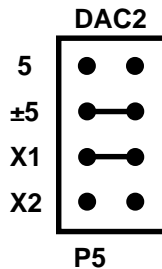

Fig. 1-5 — DAC 2 Output Voltage Range Jumper, P5
This header connector, shown in Figure 1-5, sets the output voltage range for DAC 2 at 0 to +5, ±5, 0 to +10, or ±10 volts. Two jumpers must be installed, one to select the range and one to select the multiplier. The top two jumpers set the range, bipolar (±5) or unipolar (5). The bottom two jumpers set the multiplier, X2 or X1. When a jumper is on X2, the range values become ±10 and 10. The table below shows the four possible combinations of jumper settings, and the diagram shows the factory setting. This header does not have to be set the same as P4.